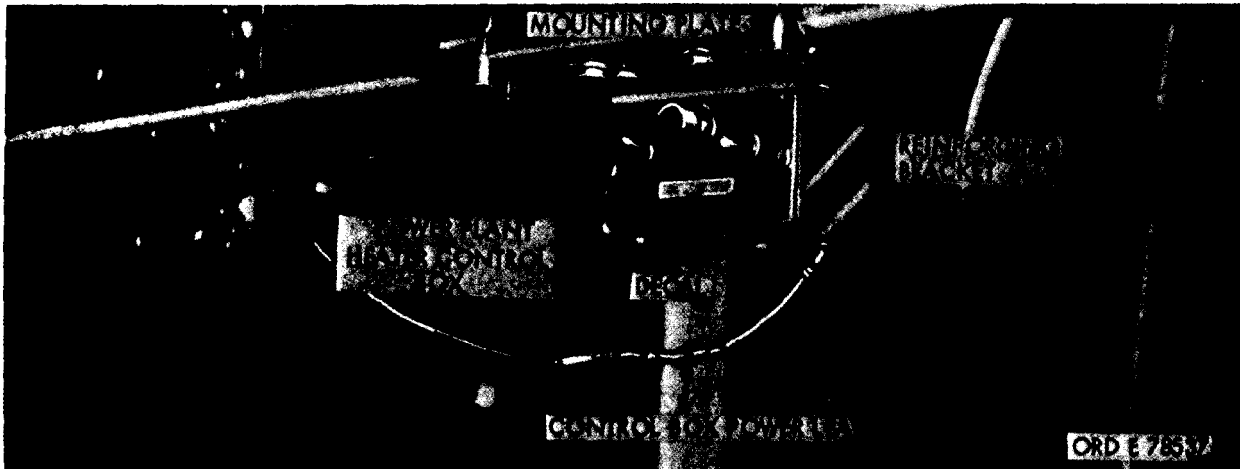

Figure 711. Installation of power plant heater control box.
- (1) Butt heater control box mounting plate 10931992 against instrument panel lip (fig. 711) on reinforcing bracket center plate on bracket.
- (2) Using plate 10931992 as template, locate mounting holes.
- (3) Center punch and drill two 5/16 dia. holes located in (2) above.
- (4) Attach plate 10931992 to control box 10885798 using existing screws and nuts on control box,
- (5) Attach plate and box assembly to bracket using two 1/4-28x1/2 screws MS 96906-
- (6) Place decal 10896514 on front of heater control box panel, approximately as indicated in figure 711.